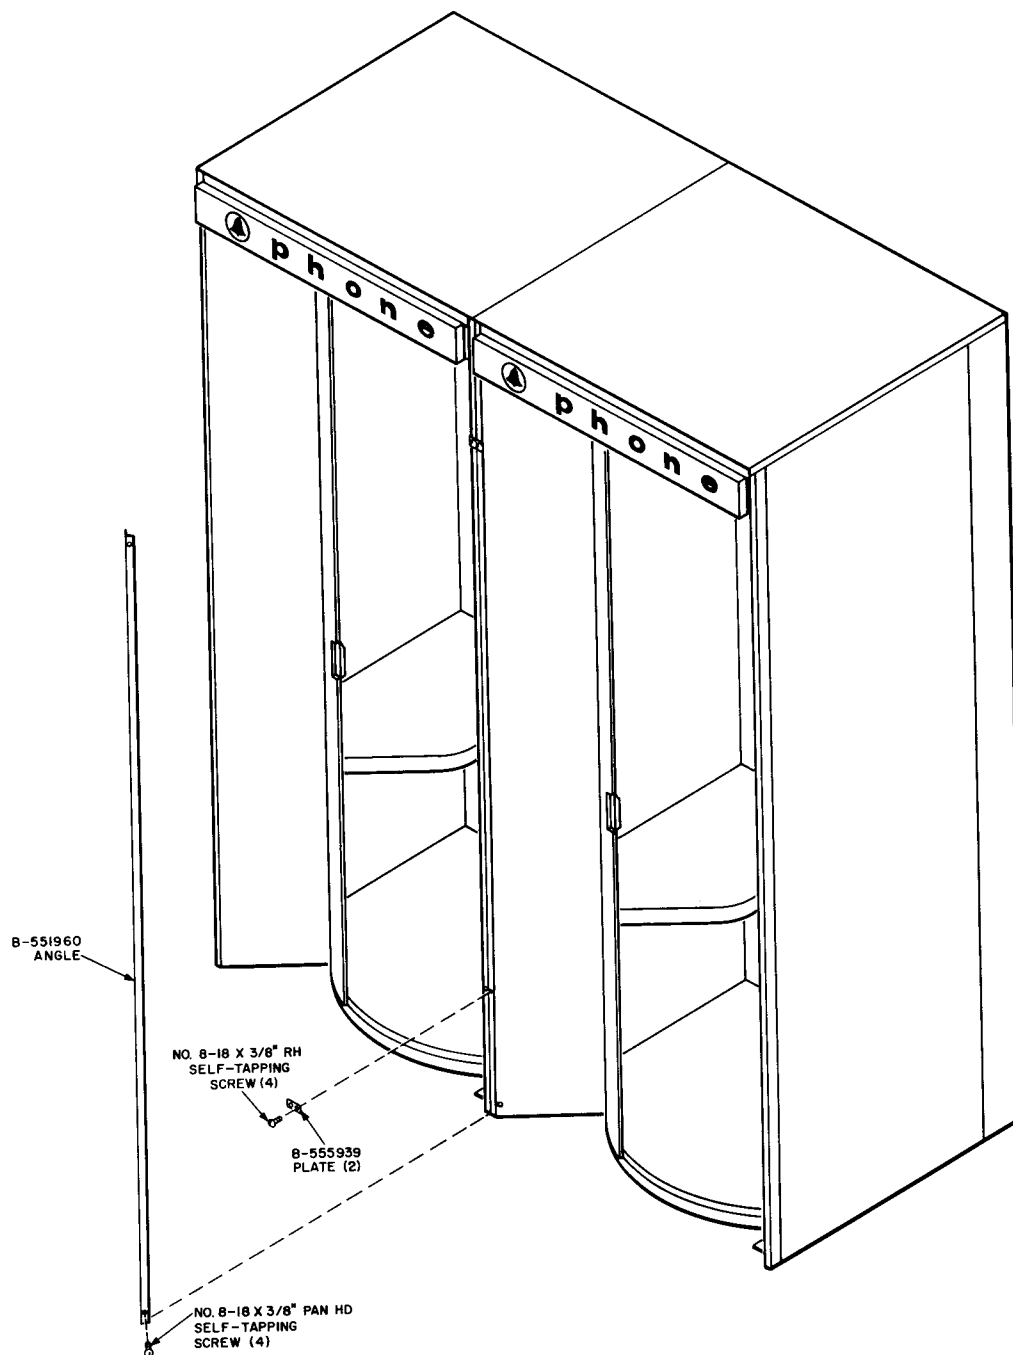

Fig. 6 — KS-19206, List 10 Multiple Installation Kit
8.01 When installing the KS-19206 booth in multiples, use a KS-19206, List 10 multiple booth installation kit and install it as follows (Fig. 6).